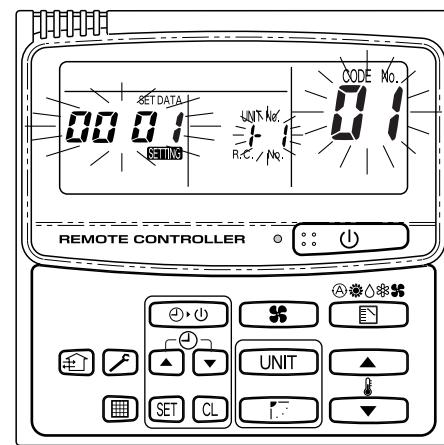

Fig. IV-13
(I) Change the period of the filter timer (Ref. Fig. IV-13)
- ① Press the **f** + **UNIT** buttons at same time for more than 4 seconds.
- ② In case of group control, if you want to change all units in group control collectively, proceed next step remaining "ALL" displayed.